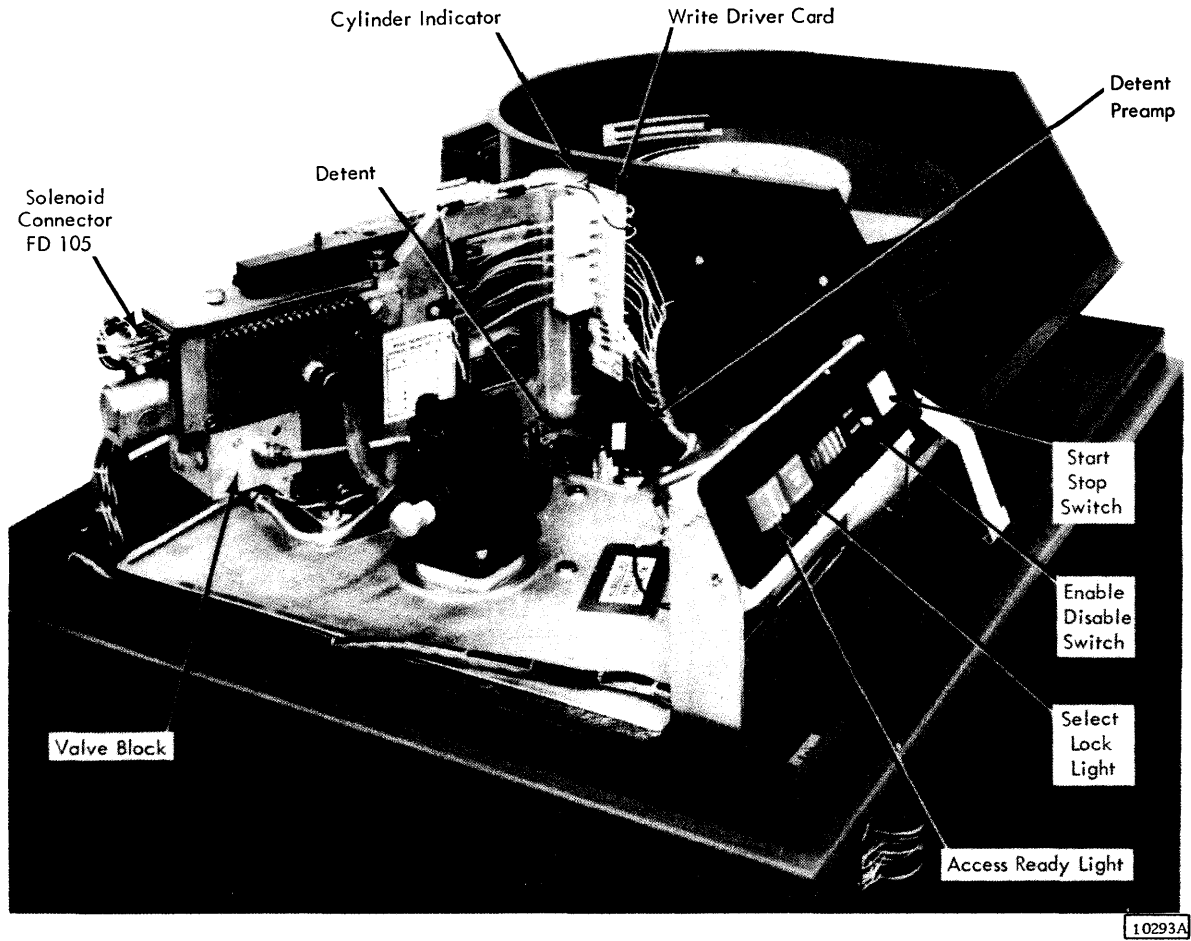

Figure 6-1. Hydraulic Mechanism, Front View
- Figure 6-1. Hydraulic Mechanism, Front View